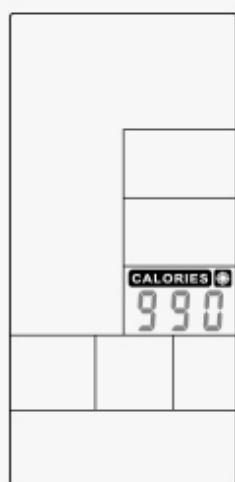

Figure 43
- CALORIES value is flashing, press UP and DOWN to adjust (Figure 43). Press ENTER to confirm meanwhile buzzer beeps 1s and TARGET CALORIE lasting lighting up.